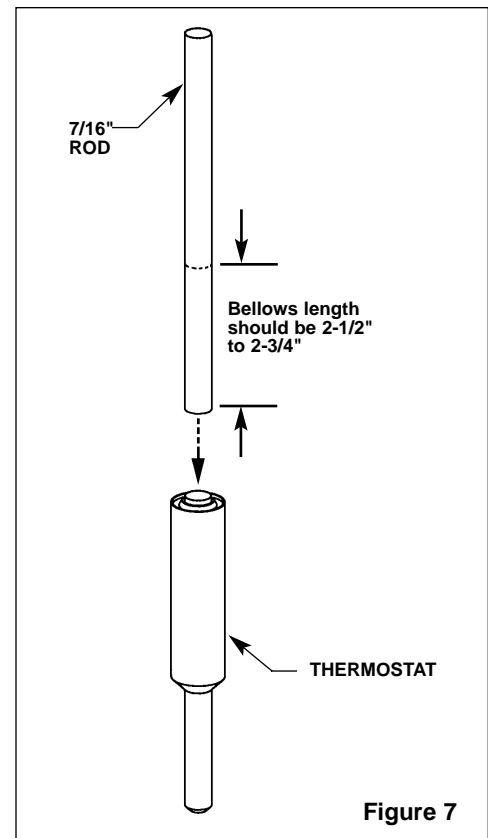

Figure 7
2. Insert a 7/16" dia. rod into the thermostat bellows. Mark the length of the rod inside the bellows (see Figure 7).
3. Mark the length of the thermostat bellows (at room temperature, with 10 lb. of force, the bellows length should be approx. 2-2/3") (see Figure 7).